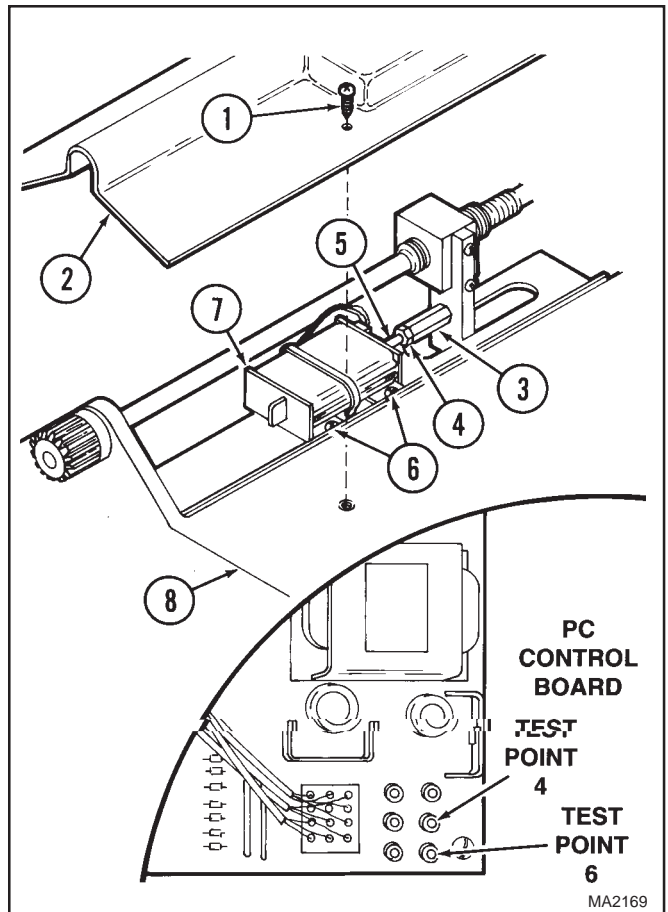

Figure 4-46. Lateral Tilt Transducer Adjustment
- (1) Remove electrical cover (Refer to para 4-4).
- (2) Plug the positive probe of the multimeter into Test Point 4 and the negative probe of the multimeter into Test Point 6 on PC control board. See Figure 4-46.
- (3) Remove two screws (1, Figure 4-46) and push lateral tilt cover (2) up out of the way.